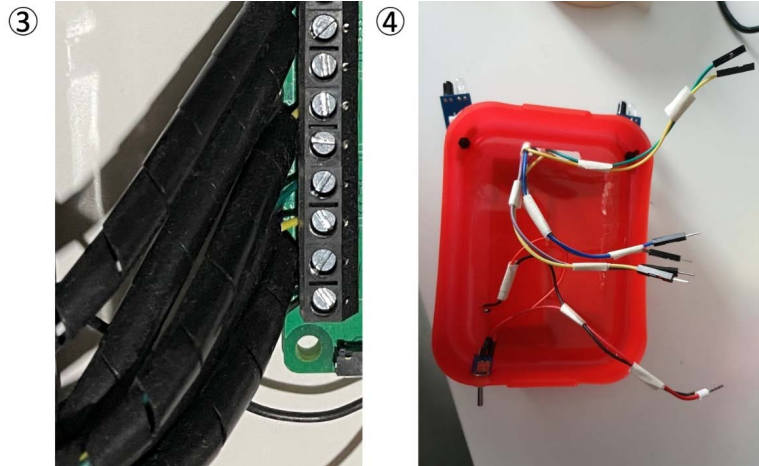

Figure 14.6 – Tidying wiring
3. You can tidy robot cabling using 6 mm spiral wrap and cable clips, as shown in *Figure 14.6 (3)*, or just masking tape, as shown in *Figure 14.6 (4)*. Wiring can be aesthetically pleasing if you make an effort to route it nicely.